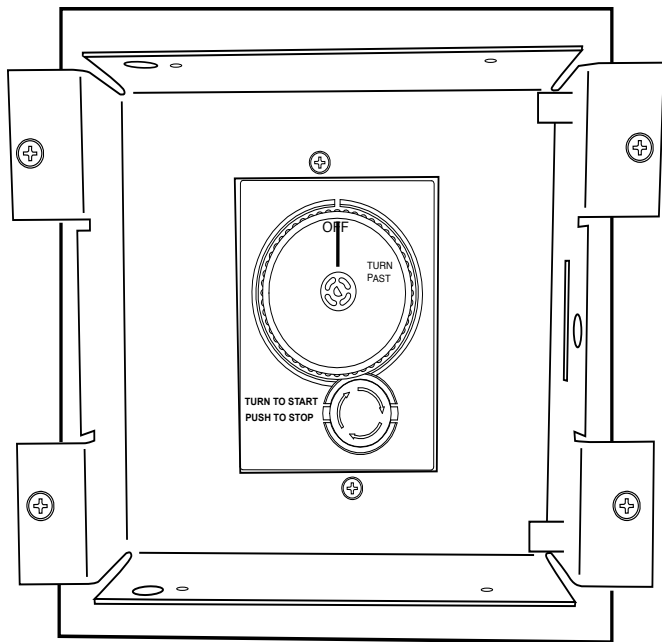

Fig. 3 Shows ESTOP installed into back panel.
Step 4: Install the ESTOP Gas Timer using the two screws provided with the gas timer into the back panel. See Fig. 3.